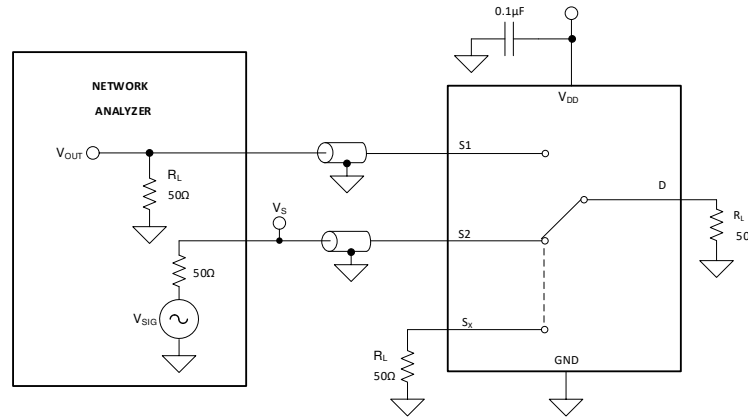

图 7-9. Channel-to-Channel Crosstalk Measurement Setup
Crosstalk is defined as the ratio of the signal at the drain pin (D) of a different channel, when a signal is applied at the source pin (Sx) of an on-channel. 图 7-9 shows the setup used to measure, and the equation used to compute crosstalk.